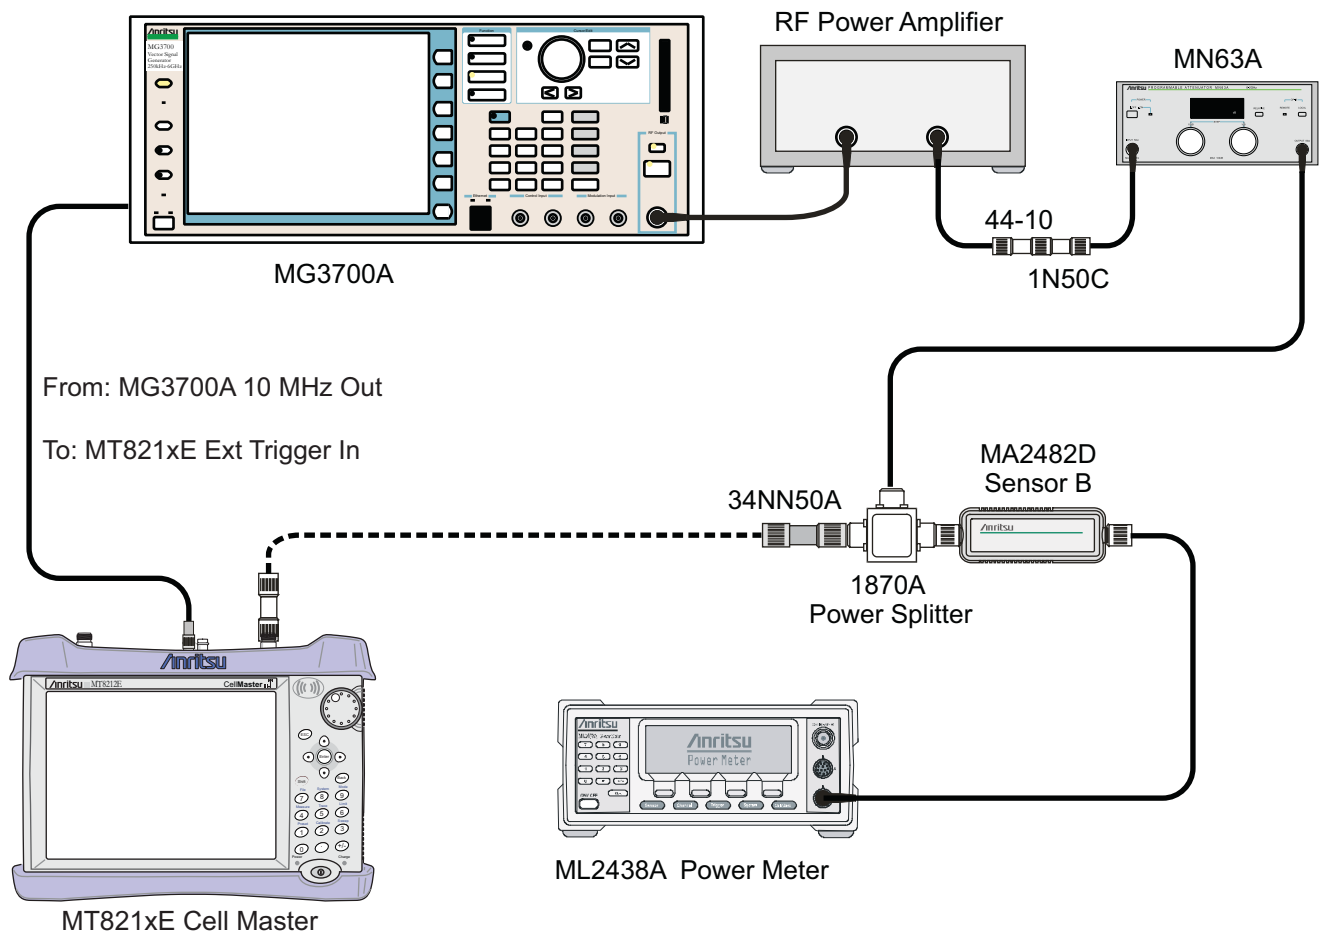

Figure 5-16. Level Accuracy Verification
26. Remove Sensor A from the Power Splitter, and then connect the Power Splitter to the Cell Master RF In port with the N(m)-to-N(m) adapter, as shown in Figure 5-16.
31. Press the **Shift** and **Sweep** (3) hard keys, then press **Meas Mode**.
61. Remove Sensor A from the Power Splitter, and then connect the Power Splitter to the Cell Master RF In port with the N(m)-to-N(m) adapter, as shown in Figure 5-16 on page 5-82.